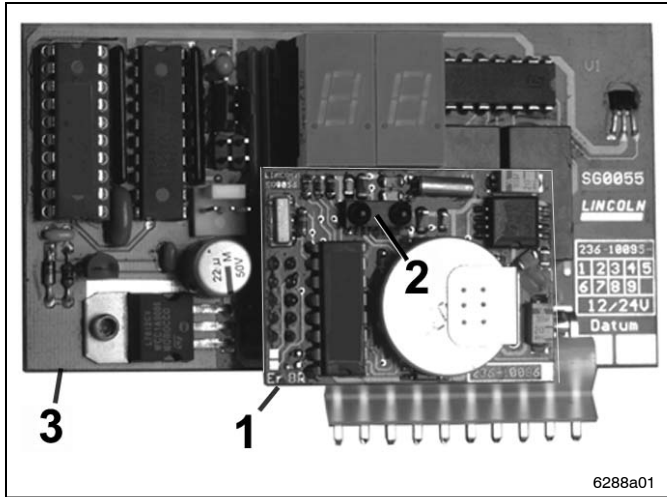

Fig. 4 Control p.c.b. MDF00 with built-on data logger
- The data logger (fig. 4, pos. 1) is fixed onto the p.c.b.
- control p.c.b. MDF00 (pos. 3, fig. 4)
- built-on data logger module with IR interface (pos. 2, fig. 4)